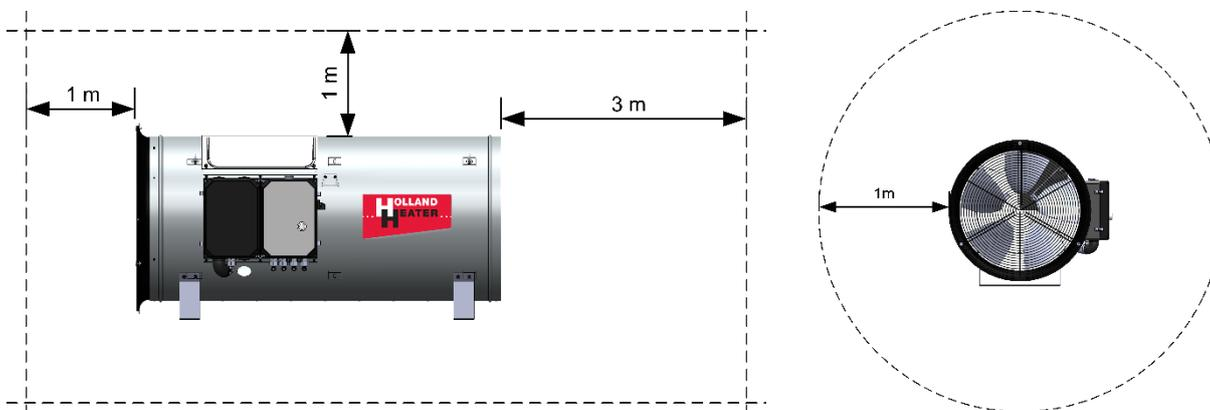

Fig. 5.3-1 Free space around the heater
- You must leave enough free space around the appliance, as safety zone. The free space around the appliance is 1 meter. On the front of the appliance, you must leave 3 meters free space, because some objects may be flammable. See figure 5.3-1